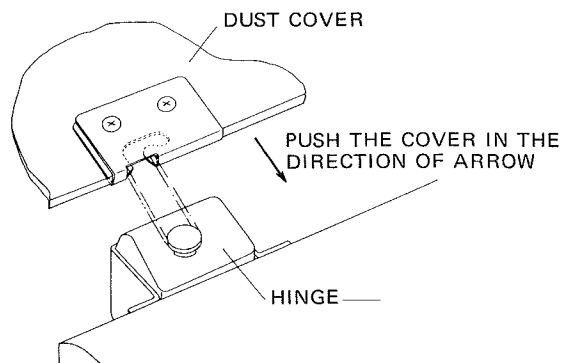

Fig. 6
9. To install the dust cover, fit it to the hinges as shown in figure 6 and 7. Before it is closed, make sure that the cover is first pushed into the hinges and then deeply to the left side, from front view. To take off the cover, first open it fully and next push it to the right, as seen from the front view, and then pull it out.